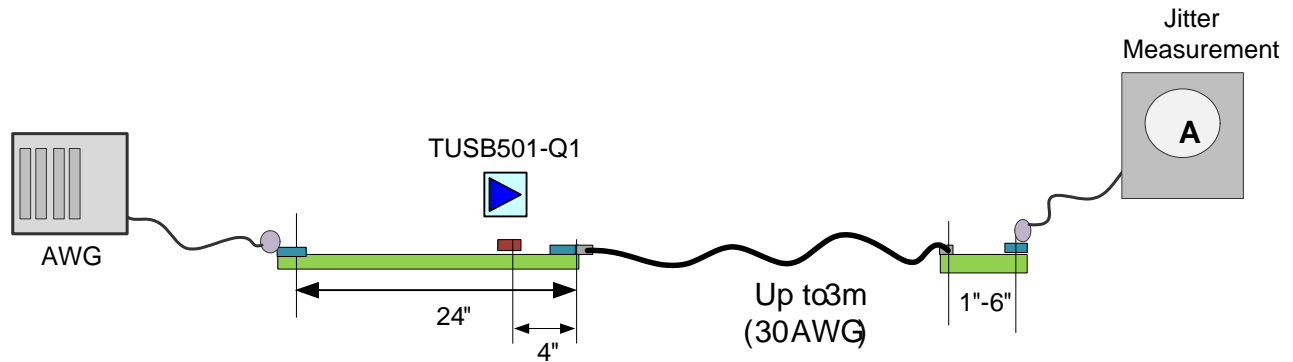

Figure 3. Jitter Measurement Setup
- (1) Includes RJ at 10-12.
- (2) Measured at the ends of reference channel in Figure 3 with K28.5 pattern, VID = 1000 mVpp, 5 Gbps, -3.5 dB de-emphasis from source.
- (3) UI = 200 ps.
- (4) RJ calculated as 14.069 times the RMS random jitter for 10-12 BER.